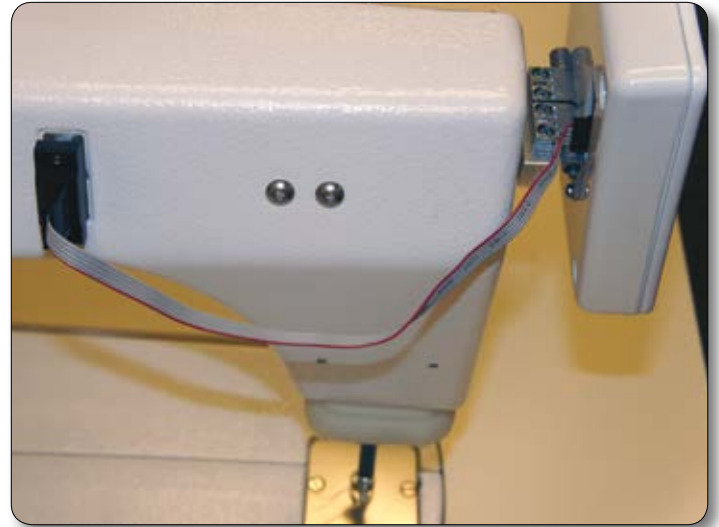

Figure 6
The color touch-screen comes pre-installed on its mounting bracket and should have one end of the D cable attached to the back of the touch-screen (see Figure 6).
2. Use a Phillips screwdriver to tighten the 4 screws through the holes of the hinges and into the machine (Figure 6). Tighten in place.